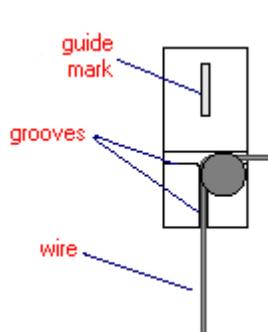

Figure 1: Upper Clamp
2. Fit the bent ends of the wire under the screws and washers of the upper and lower clamps, as illustrated in Figures 1 and 2. Make sure the screws are firmly tightened.